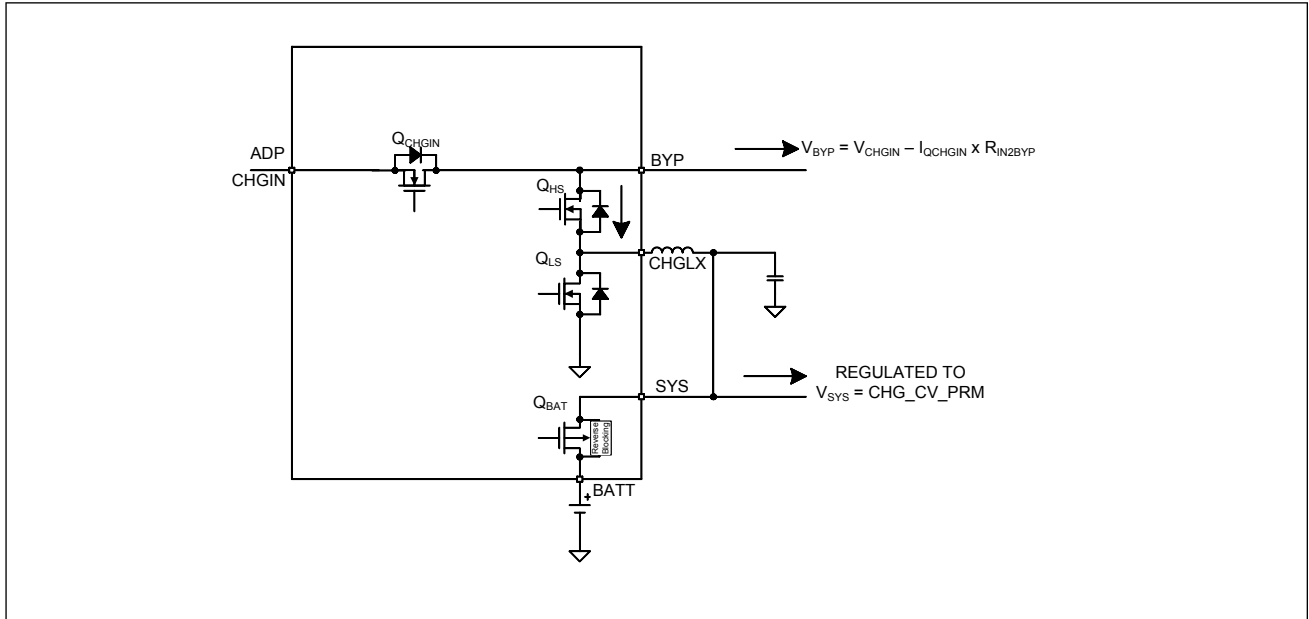

Figure 8. No Charge-Buck
- 5. NO CHARGE-BUCK, MODE = 0x0C: Adapter is detected within the input voltage operating range ( $Q_{CHGIN} = \text{on}$ ). Battery is disconnected ( $Q_{BAT} = \text{off}$ ) and charger is operating in buck mode powering SYS node, see Figure 8.